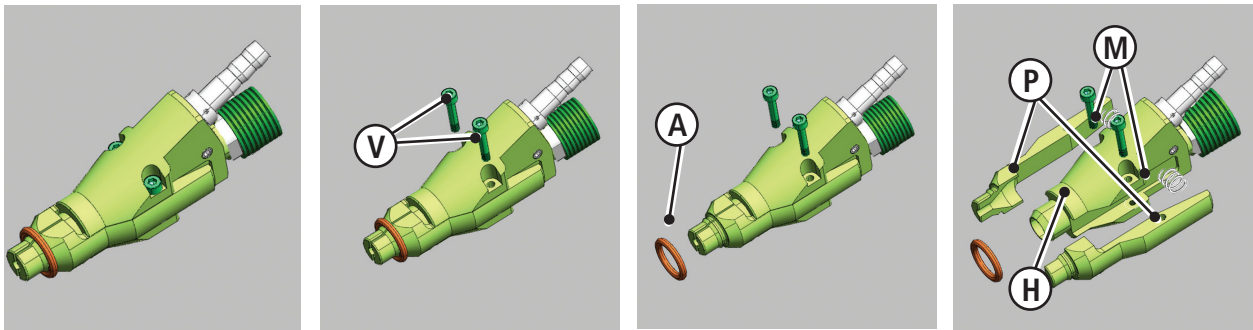

Figure 31
See Figure 31
- Follow the procedure in Figure 31 (pg 41) to disassemble the head